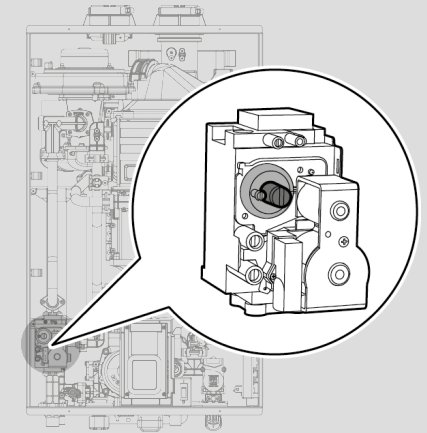

Figure 10
- Fully open a hot water fixture and set the water heater to operate at 1-stage MIN mode (refer to page 8). Measure the offset value at low fire and compare it to the values in Table 3. If the offset value is out of range, the gas valve set screw will need to be adjusted. If adjustment is necessary, locate the set screw as shown in Figure 10. Using a 5/32" or 4mm Allen wrench, turn the set screw no more than 1/4 turn clockwise to raise or counterclockwise to lower the offset value.